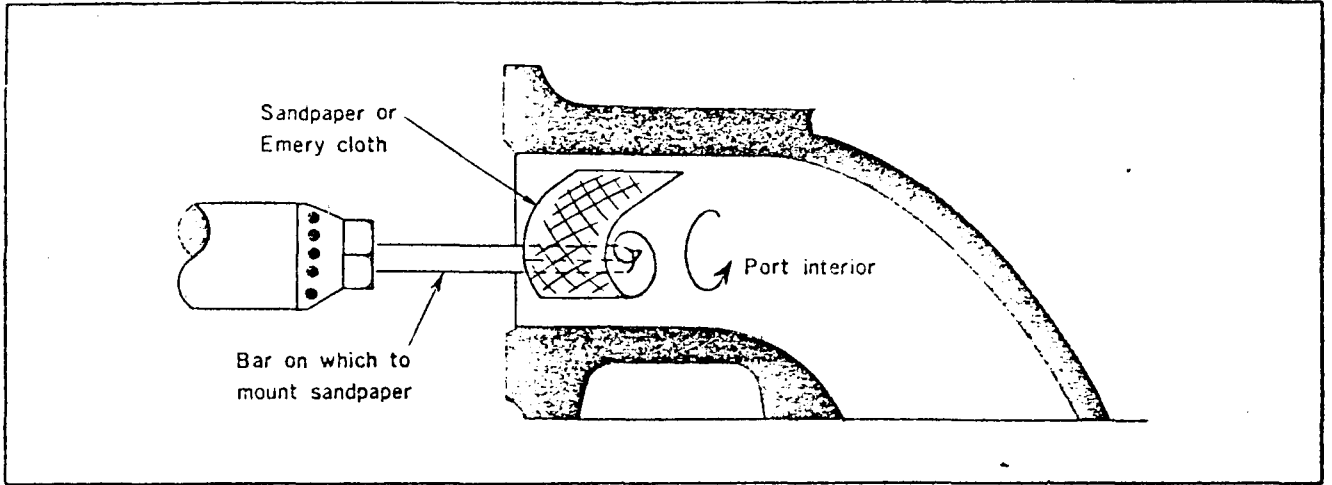

Fig. 2-13 Polishing of Port Face
3) Polish the port face from the inlet to the outlet, (See Fig. 2-13). Cut thicker portions with the rotary